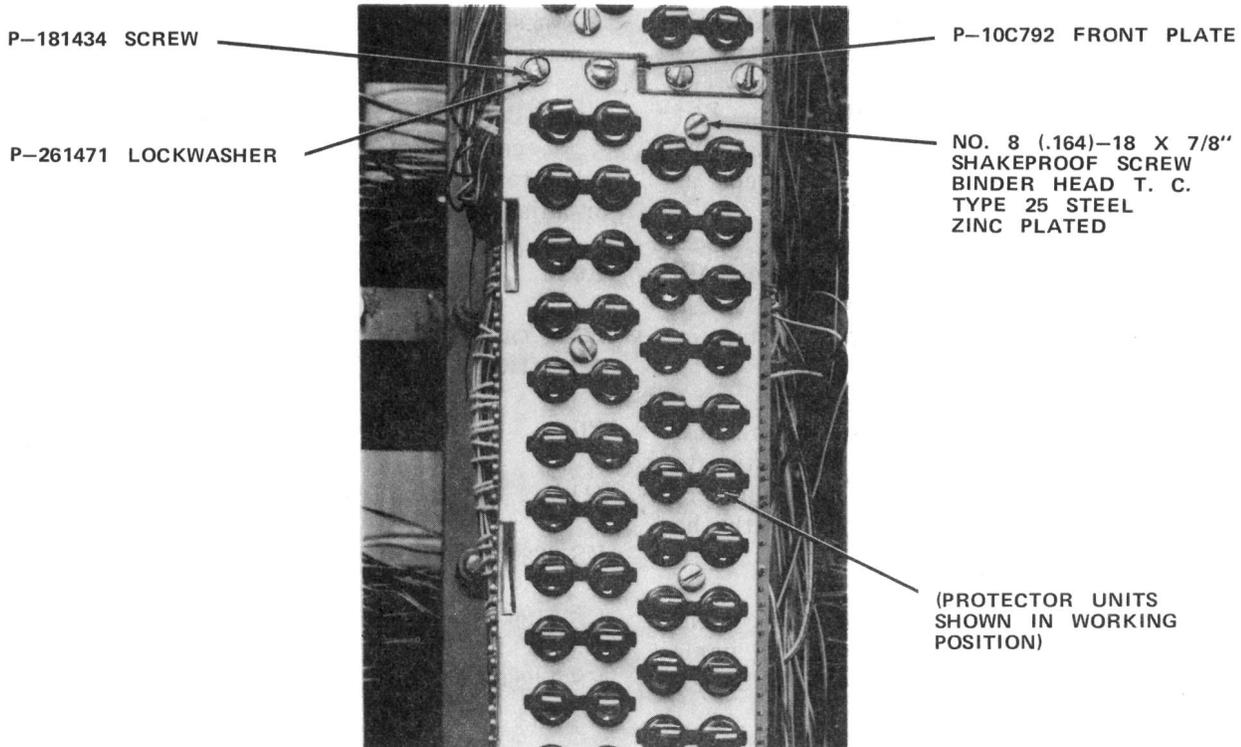
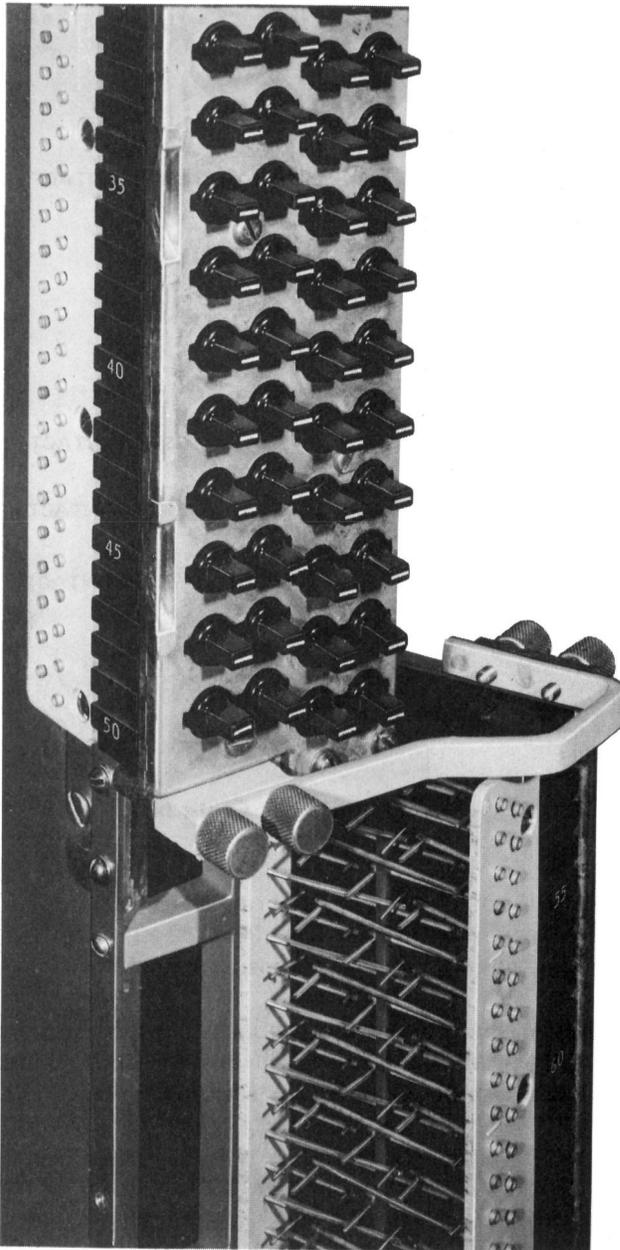

Fig. 1—Front View of Connector
Fig. 2—73B Bracket Supporting a 300-Type Connector
1.08 A design change on the 300-type connector eliminates the aluminum finger-type holders (Fig. 1) and replaces it with a prestenciled holder which is molded as a part of the phenolic block (Fig. 2).
3.01 A front view of the 300-type connector and replaceable parts are shown in Fig. 1. Internal parts such as cross-connect terminals, test contact terminals, and springs are shown in other figures throughout this section.
3.02 To make any replacement of parts, a 50-pair section of the connector must be removed from the frame. Remove the screws that attach the faceplate of the connector to the mounting brackets. Rotate the connector toward the fanning strip. Attach the 73B bracket to the top of the connector unit and to the mounting bracket as shown in Fig. 2. The superseded 73A bracket is installed in the same manner but cannot be used on 300-type connectors.